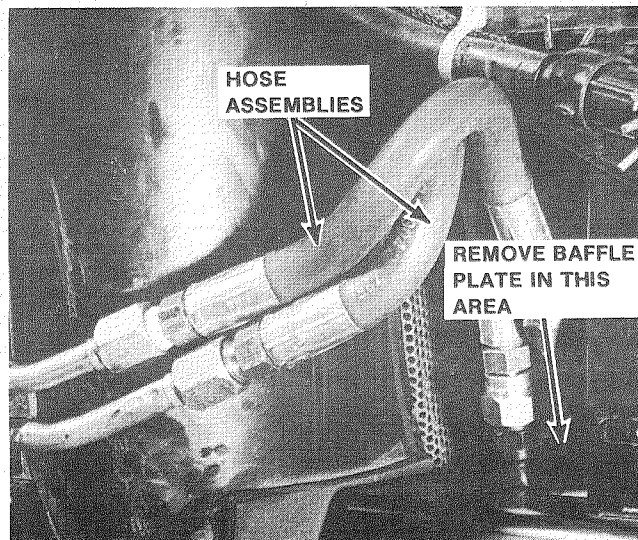

Figure 8
11. Install one hose assembly from lower (long) tube assembly to lower connection on cooler; see figure 8.
12. Install other hose assembly from upper (short) tube assembly to upper connection on cooler; see figure 8.